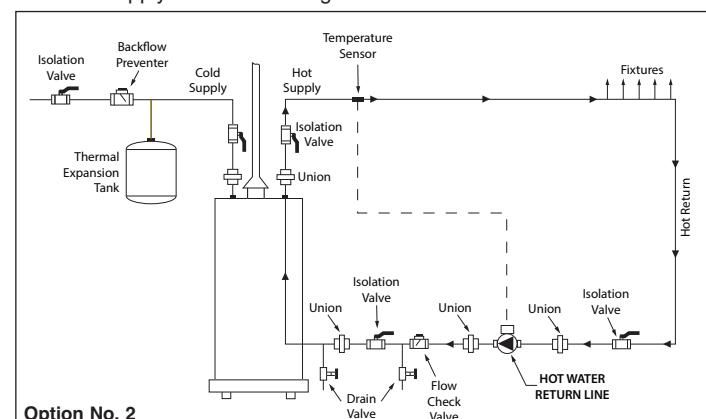

Figure 3: Installation Diagram (For demonstration only)
Hot Water Return Line (Option No. 2) - Install the SmartPlus on the domestic hot water (DHW) return line pumping toward the DHW source. The external sensor provided with the SmartPlus should be installed on the DHW supply line. Refer to Figure 3 below.
1. Install the SmartPlus in-line on the DHW return line as shown in Figure 3. Be sure the directional arrow on the casing is installed with the arrow pointing toward the hot water source.
2. Install all other system components as shown in the piping diagram in Figure 3.
4. Plug the external temperature sensor provided into the “TEMP SENSOR” receptacle on the side of the electrical box. Attach the sensor to the hot water supply pipe as in Figure 3, using the black zip-tie connector provided.